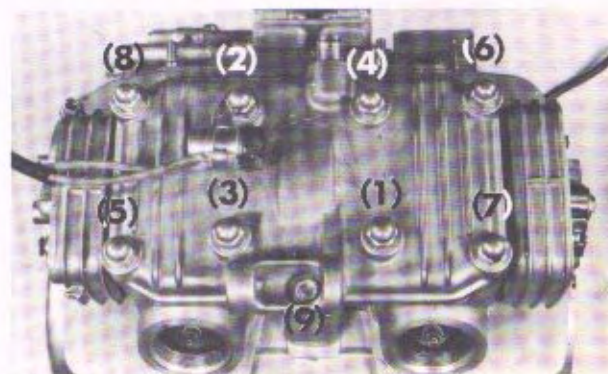

Fig. 3-21 Tightening sequence of cylinder head cap nuts
1. Place the cylinder head cover in place on the cylinder head with the gasket inserted in between. Install and tighten the cylinder head cover hold-down cap nuts in the sequence as shown in Fig. 3-21.